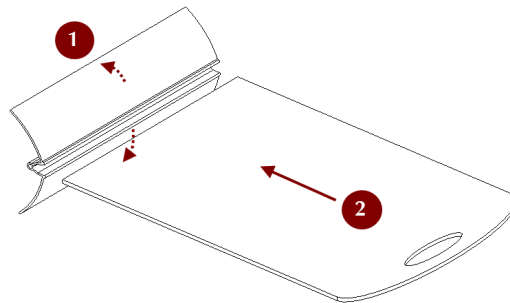

Figure 11.18.: Assembling the rig.
3. Insert the board into the slot, as Figure 11.18 shows.